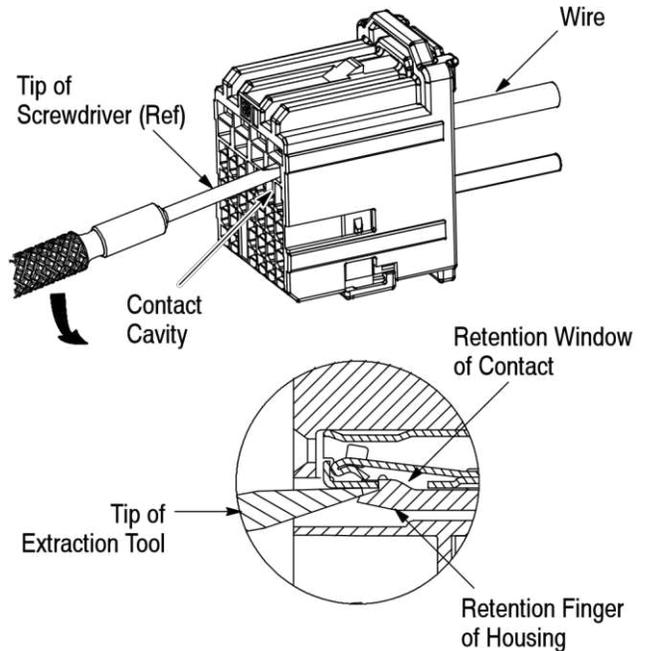

Figure 7
4. For 2.8mm contacts, refer to Figure 7, and proceed as follows: